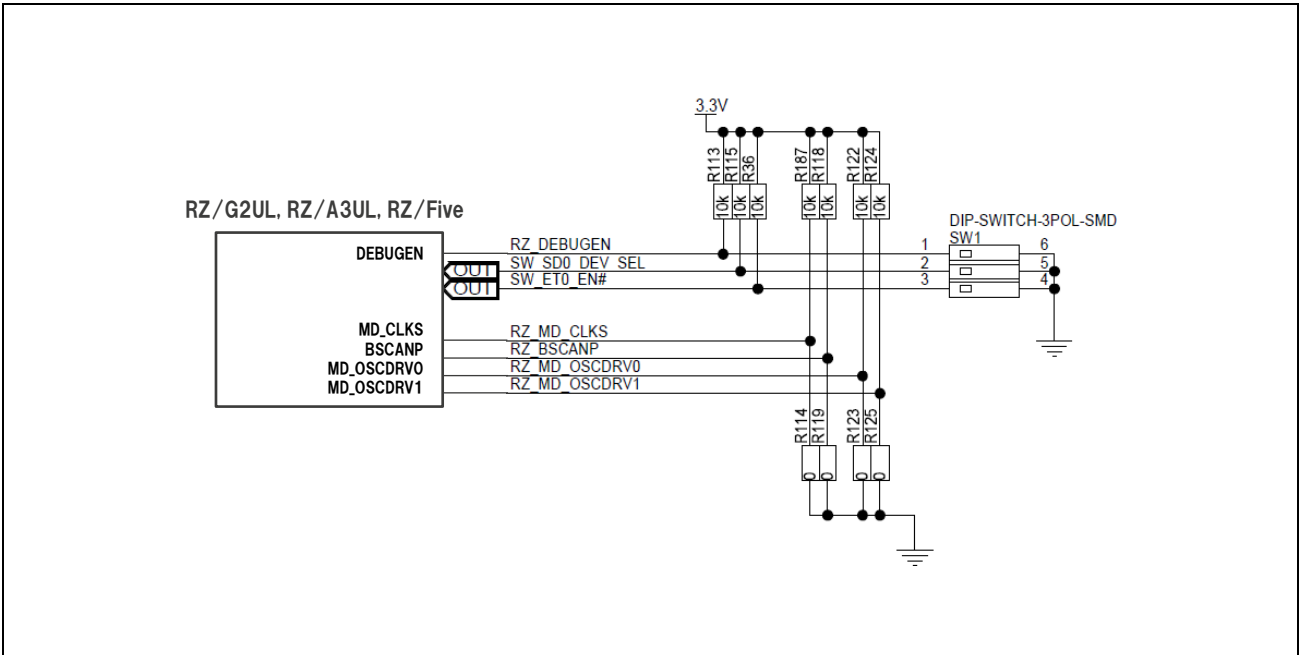

Figure 3.8 Block Diagram of System Setting I/F
**Table 3.5** lists mounted switches. **Figure 3.8** shows a block diagram of the System Setting interface.